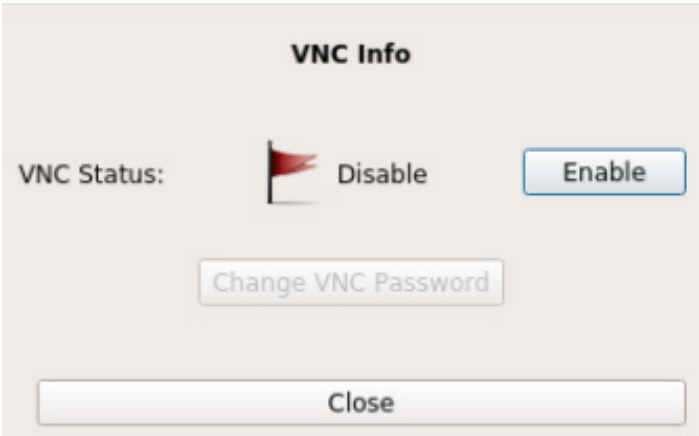

Figure 40 Remote VNC Login
- 2 Click **Remote Login (VNC)**: The dialog box shown in Figure 40 appears. Click **Enable**.